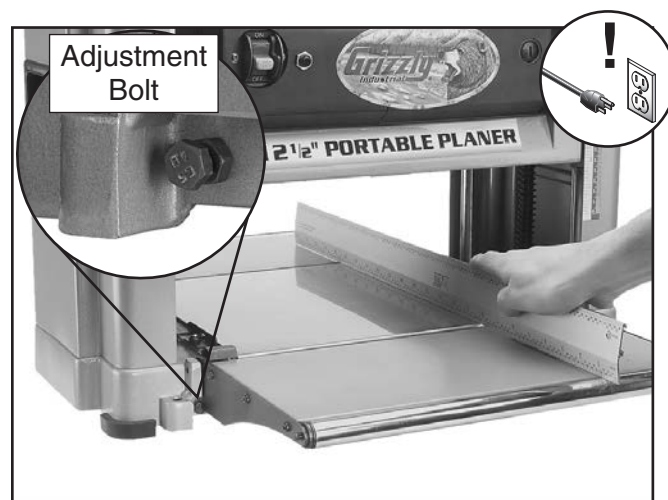

Figure 33. Aligning extension wings.
2. Fold both extension wings down, then place a straightedge across the wings and table, as shown in **Figure 33**.
3. Loosen the jam nuts on the wing adjustment bolts on either side of the wing (see the inset of **Figure 33**), then loosen or tighten the adjustment bolts for the amount needed.